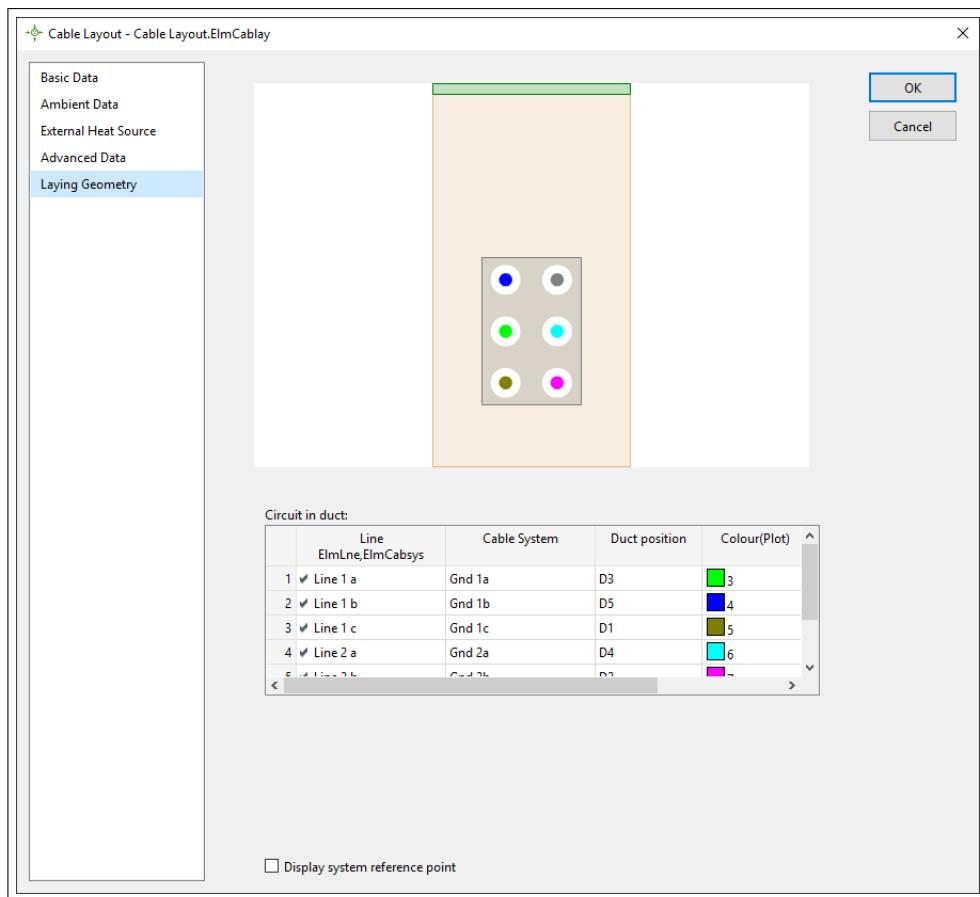

Figure 35.5.3: Cable Sizing Cable Layout parameters - Laying Geometry
- *Laying Geometry* - see figure 35.5.3